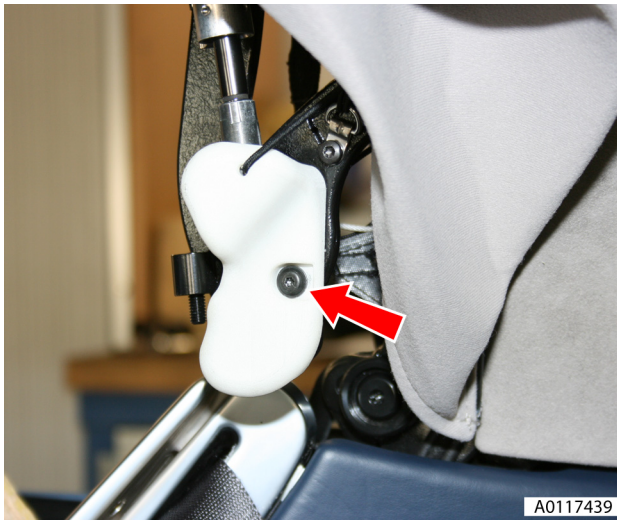

Fig. 6
15. Remove lower cover RH (screw x1) (see Fig. 6).